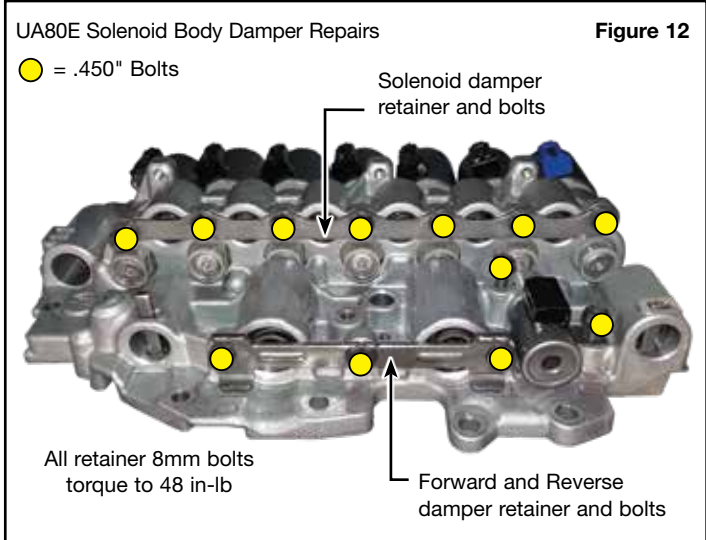

Figure 12
- After the installation of the Zip Kit, reassemble the solenoids and accumulator pistons into their locations shown in the exploded view (page 8). Then install the solenoid and accumulator brackets and torque the small 8mm bolts to 48 in-lb (yellow circles, Figure 12).